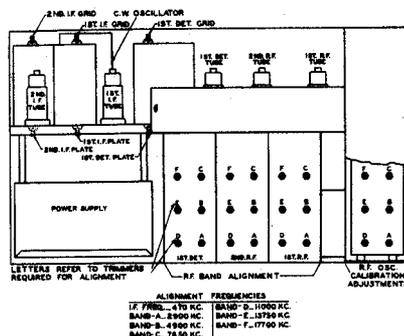

Fig. 6.—Location of adjusting trimmers, and aligning frequencies.
1. Remove the plugs on the back of the oscillator (see fig. 6), and loosen all the r-f oscillator lock nuts.
4. Set signal generator dial for 2900 kc (see fig. 6 for aligning frequencies) and use a modulated signal for alignment.
4. Using the alignment frequencies of figure 6, adjust the trimmers for each band for peak output in sequence from the 1st detector stage to the 1st r-f stage. Use lowest signal generator output possible. When working on trimmers of one band, do not touch trimmers of other bands. Be sure to change BAND CHANGE switch, signal generator frequency, and receiver tuning dial band when changing from one band to the next.